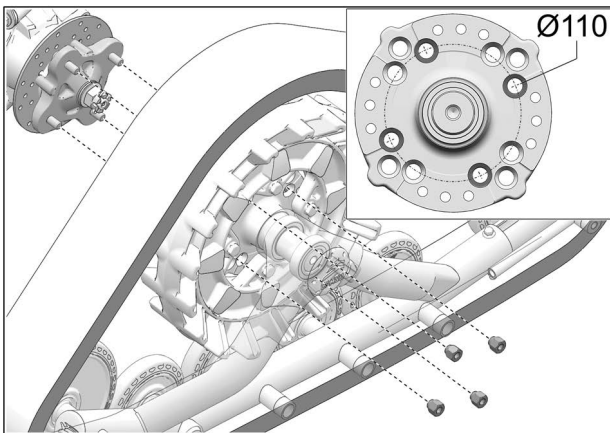

Fig. 21
- Secure undercarriage to front hub using the vehicle's own lug nuts. Use bolt circle  $\text{\O}110$  mm. See Fig. 21